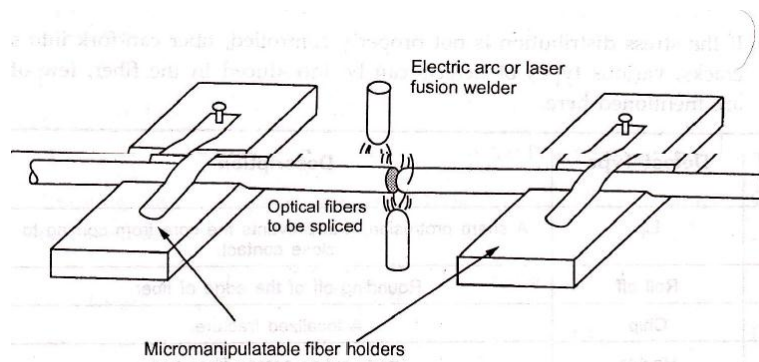

Fig. 4.2.1 Fusion splicing of optical fibers
- Fiber ends are first prealigned and butted together under a microscope with micromanipulators. The butted joint is heated with electric arc or laser pulse to melt the fiber ends so can be bonded together. Fig. 4.2.1 shows fusion splicing of optical fibers.